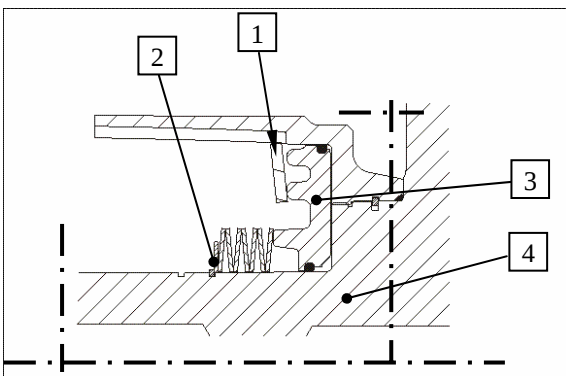

Figure 11
Installation position of cup spring see also Figure 11!
Install outer and inner disks alternately into the disk carrier (3) as shown in Figure 11,